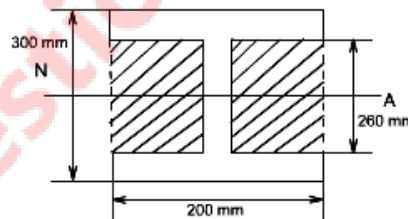

Figure 1
- (c) An I - section girder, 200 mm wide by 300 mm depth flange and web of thickness is 20 mm is used as simply supported beam for a span of 7 m. The girder carries a distributed load of 5 KN /m and a concentrated load of 20 KN at mid-span. Refer figure 1. Determine the following: **07**